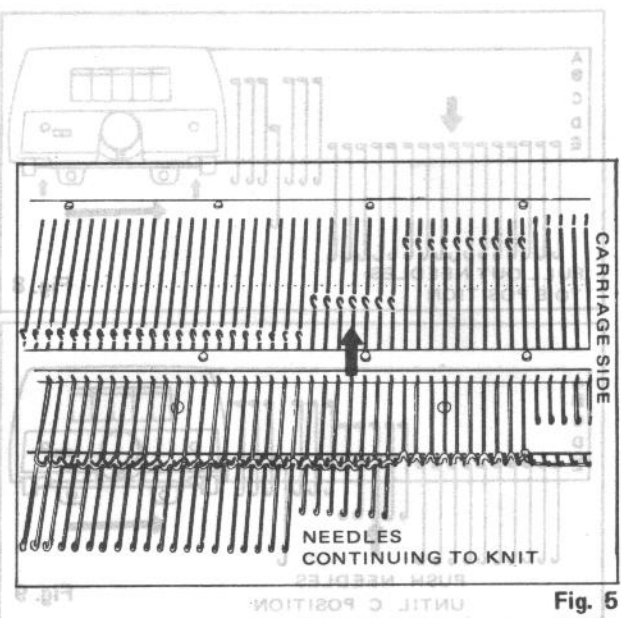

Fig. 5
4. Return a desired number of needles from E position to D position as shown Fig. 5 and knit one row. When all needles are returned to B position after repeating steps (3) — (4), return the right and left (I) buttons and knit one row.